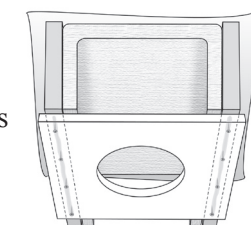

Figure 8
5. Install into the ceiling opening nonflammable sound absorbing material (such as fiberglass) to reduce sound leakage into other areas and reduce acoustical standing waves/resonances. If there already is paper or aluminum backed fiberglass located in the ceiling, remove the backing where it would come into contact with the rear of the Loudspeaker. Refer to figure 8.